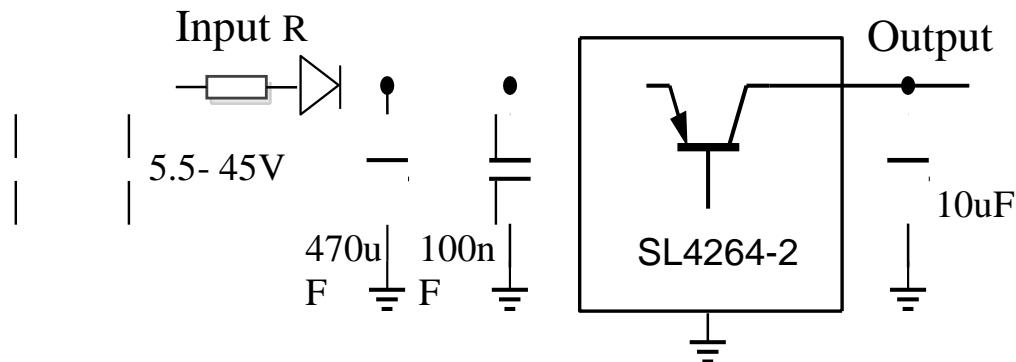

Figure 6-1 Typical application circuit
- 2) Figure 6-1 shows a typical application circuit. To ensure that the control loop is stable, an output capacitor with a capacitance of at least 1uF and a maximum ESR of $4R$ is required at the output. Both tantalum capacitors and multilayer ceramic capacitors are suitable.
- 4) To buffer power line effects, an additional 470uF electrolytic input capacitor is added to the application circuit shown in Figure 6-1. This capacitor is recommended if the device is powered by a power line several meters long.